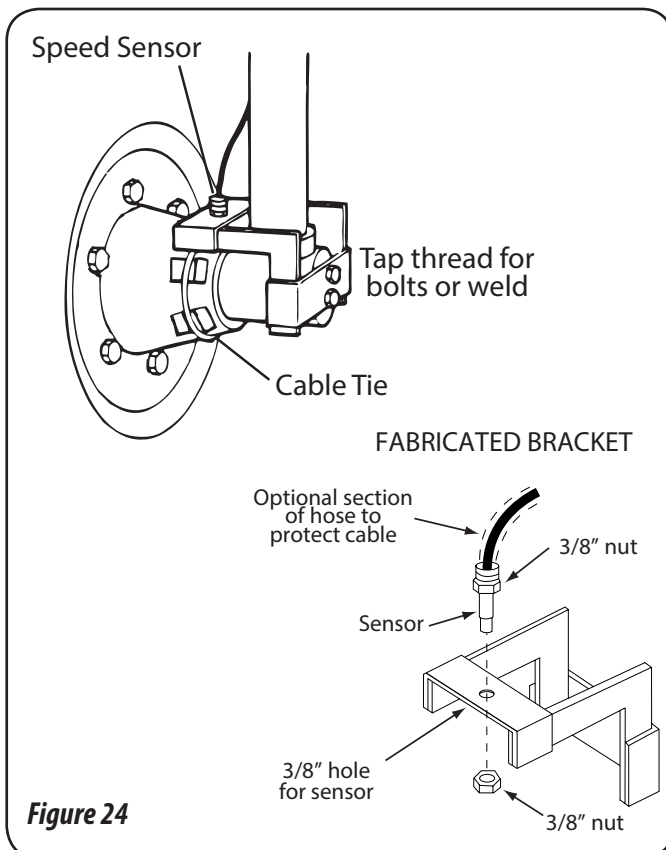

Figure 24
3. Install sensor, adjust to correct spacing ( $\frac{1}{4}$ " to  $\frac{1}{2}$ " or 6 to 13 mm is recommended), and secure with  $\frac{3}{8}$ " locking nuts. See Figure 24 below.